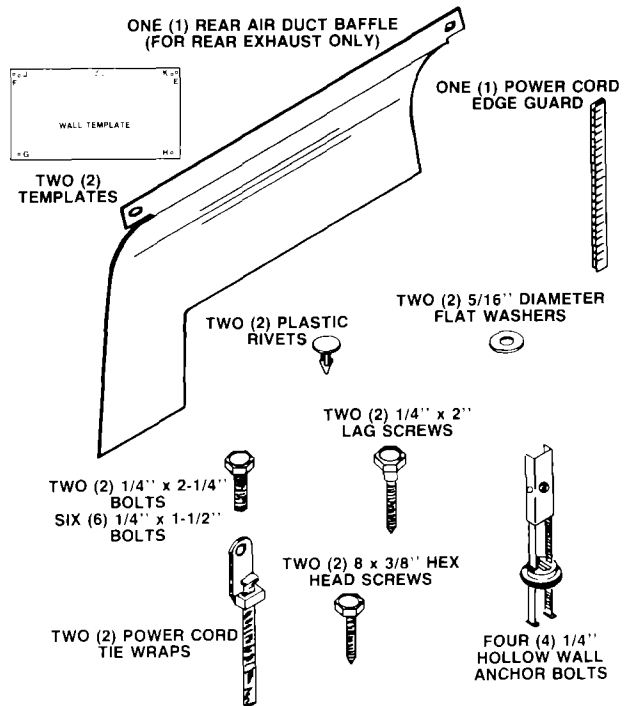
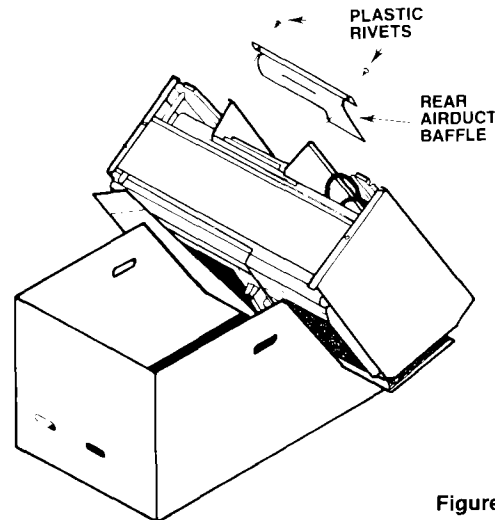

Figure 4
Figure 22
Figure 4 shows the hardware that is found in the installation materials package:
9. **Install edge guard** (in Installation Hardware Package, see figure 4, page 4) if the top cabinet is metal. This will prevent cord from rubbing on cabinet bottom. No edge guard is required for wood cabinets.
5. Attach the rear air duct baffle (See page 4, figure 4) to oven with two (2) plastic rivets. (See figure 22.)